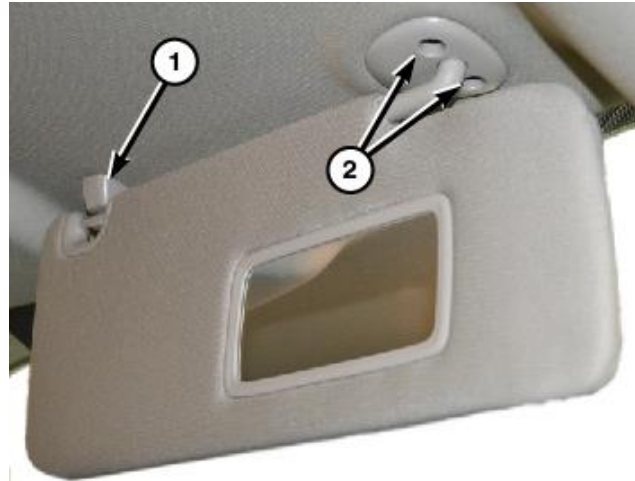

Figure 7 – Visors
11. Separate the visor from the support (1) then remove the screw and remove the visor support (Figure 7).
12. Remove the visor screws (2) then remove the visor (Figure 7).
32. Position the visor supports (1) onto the headliner and install the screws into the mounting clips (Figure 7).
34. Position the visor to the headliner and install the screws (2) that secure the visor to the roof panel. Tighten the screws to 6 N·m (53 in. lbs.) (Figure 7).